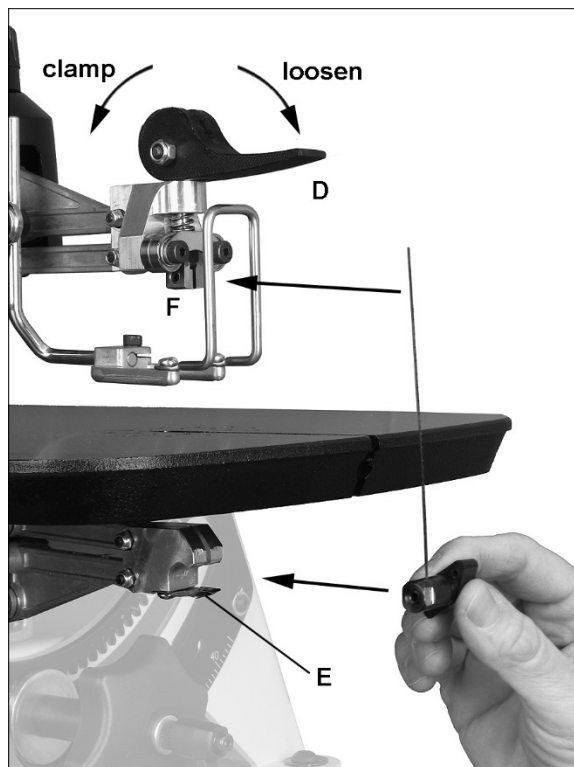

Figure 15: installing blade into guides
4. Flip clamping lever (D, Figure 15) toward front of saw to release guide.
5. Push blade holder into clip (E) while guiding blade through table slot.
6. Push top end of blade into upper guide (F), making sure it rests between the contact points of guide set screws.
7. Flip clamping lever (D) toward rear of saw to tension blade. *Do not over-tension blade; this can result in blade breakage or premature wear to clamping surfaces.*